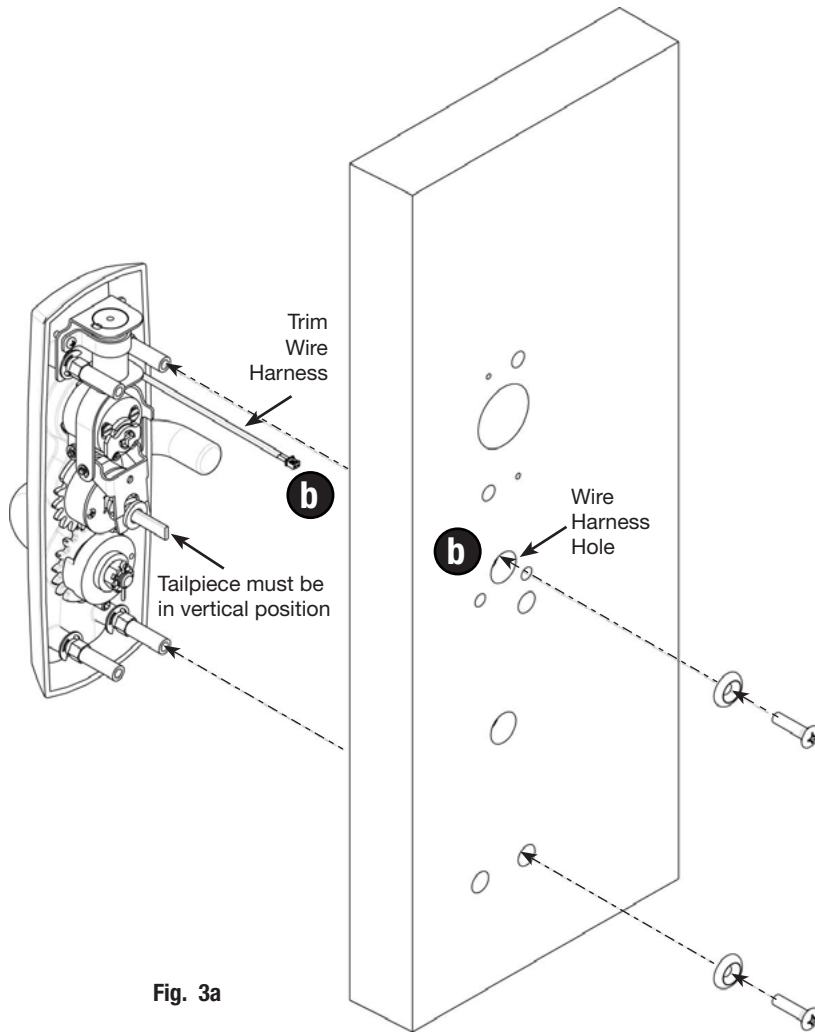

Fig. 3a
- b. Feed trim wire harness through wire harness hole (Fig. 3a).